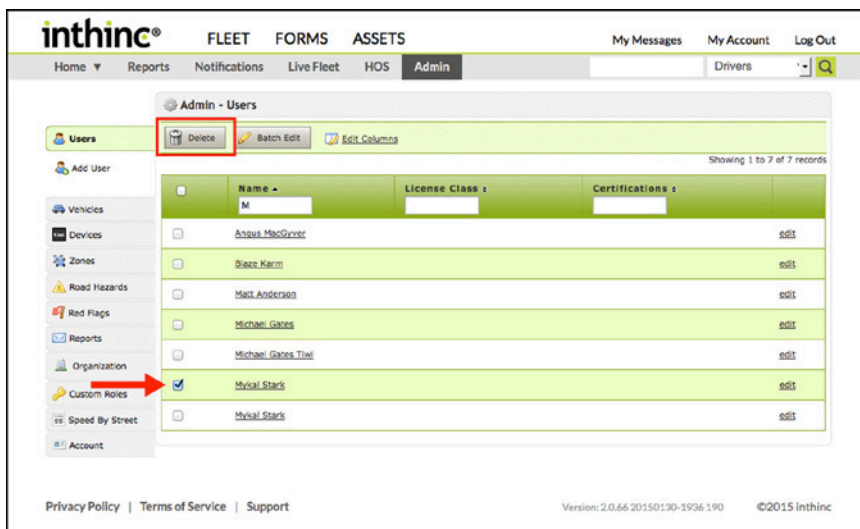

Figure 21 Admin > Users List with user selected and Delete button highlighted
- 3 Click the **Delete** button at the top of the page (Figure 21). A warning dialog will appear confirming you wish to delete the user.